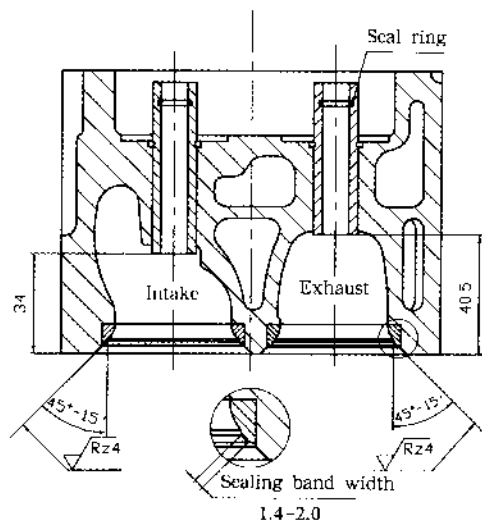
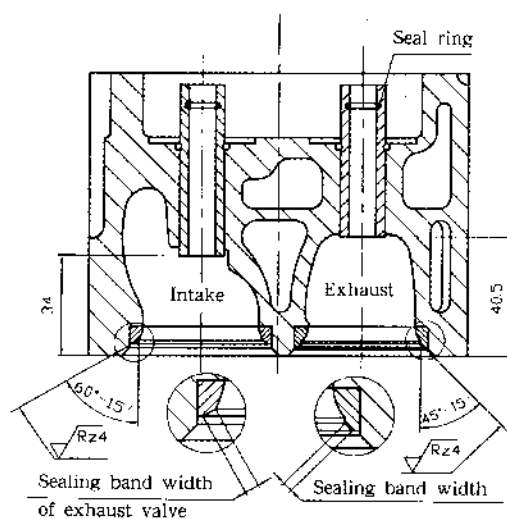

Fig. 12
Fig. 13
**Cylinder head:** made of alloy cast iron, one cylinder one head (with one intake valve and one exhaust valve). The intake/exhaust ports are at the same side of the head. There is a seat ring on the intake/exhaust port respectively. For turbocharged engine, the intake valve seat cone angle is  $120^\circ$ , and the exhaust valve seat cone angle is  $90^\circ$  (fig. 12). For natural aspiration engine, the intake/exhaust valve seat cone angles are all  $90^\circ$  (fig. 13).
**Valve guide:** made of phosphor cast iron, and phosphate coating. Intake valve guide length is 58mm, exhaust valve guide length is 51.5mm. Mounting position of valve guides are shown in fig 12 and fig 13. There are grooves and a rubber seal ring on the inner wall of guide to prevent oil from entering into cylinder.